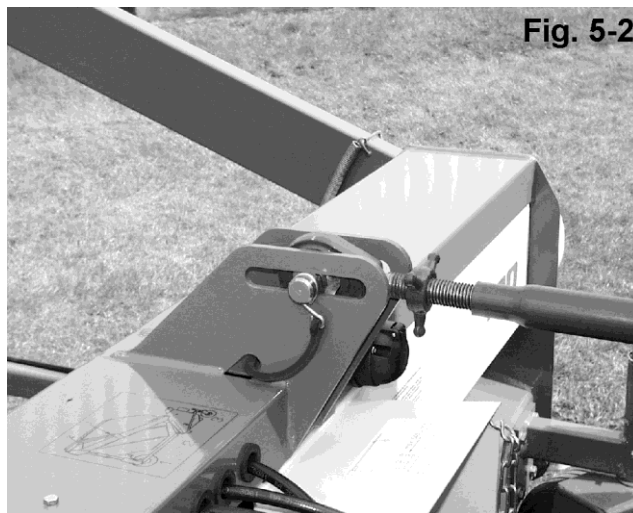

Fig. 5-2
- Adjust the upper link to halfway along the slotted hole (see Fig. 5-2) To perform this adjustment, the tractor and machine must be on a level surface. The slotted hole on the upper three-point system allows the machine to adjust to the terrain.